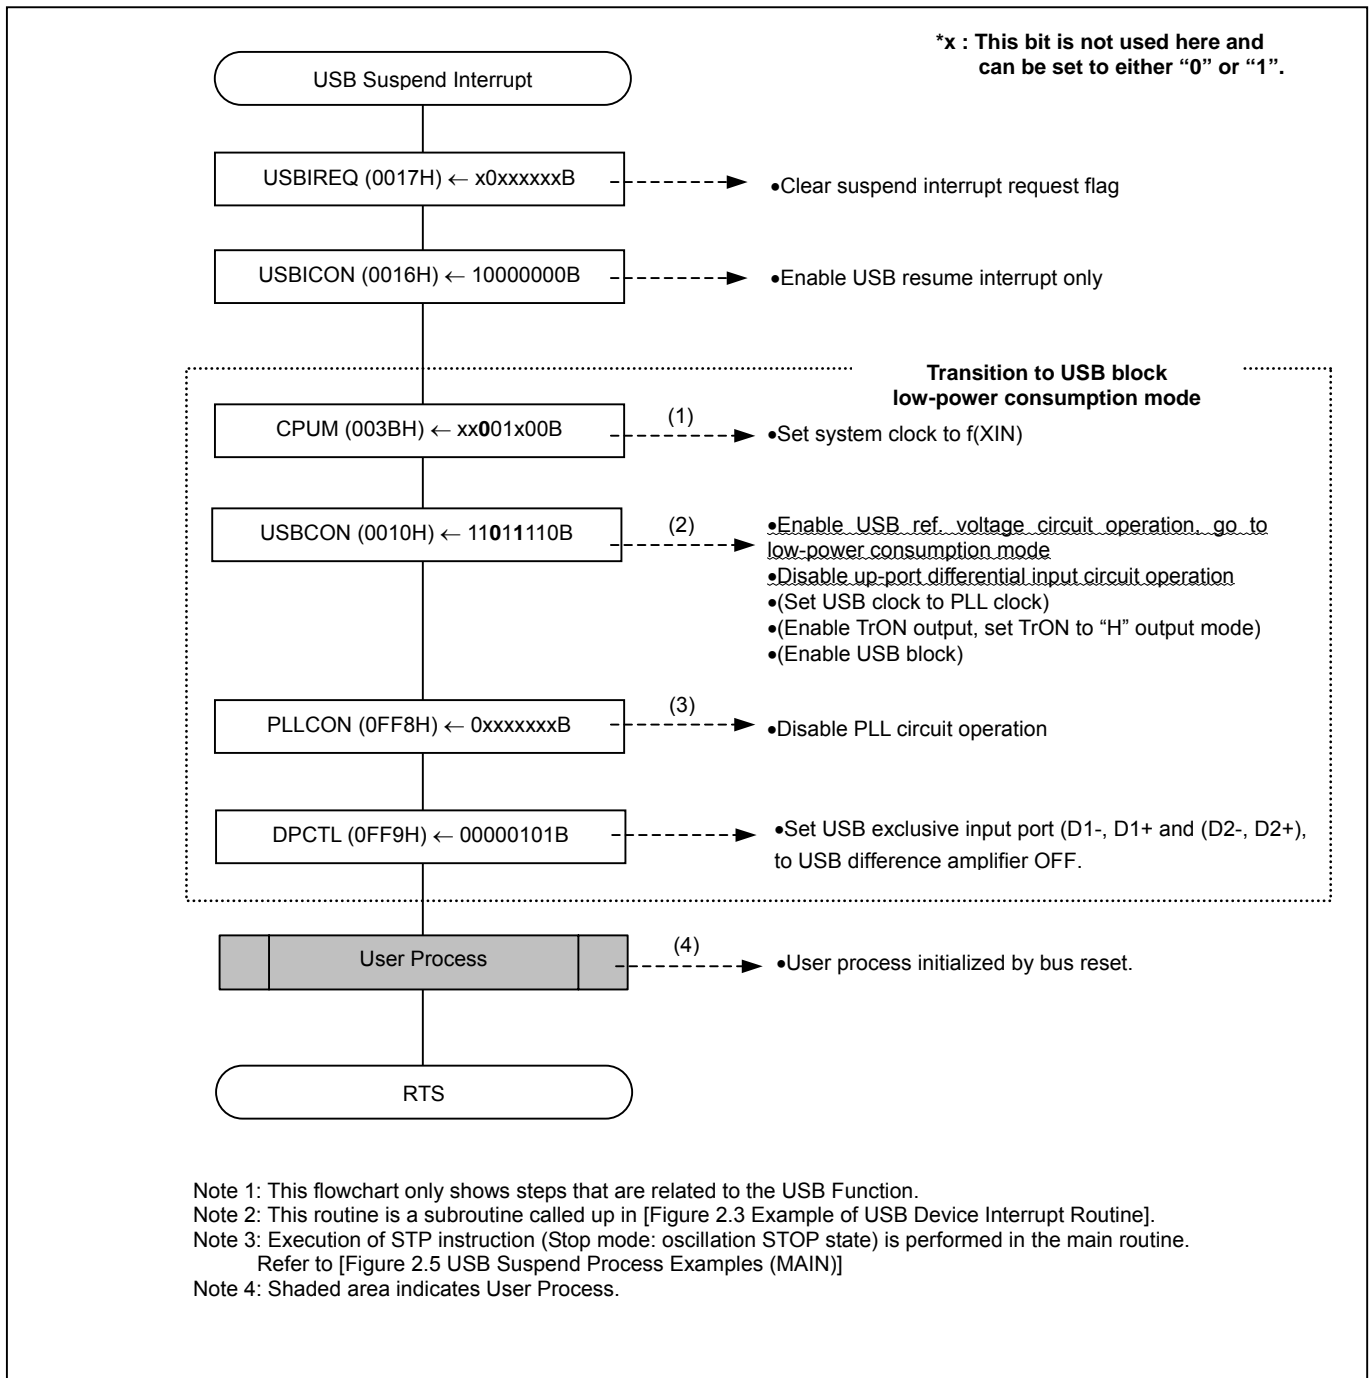

Figure 2.4 Example of USB Suspend Interrupt Routine
(6) USB suspend interrupt processing
• An example of the processing routine executed when a USB suspend interrupt is received is shown in Figure 2.4.
The following are detailed descriptions of the steps shown in [Figure 2.4 Example of USB Suspend Interrupt Routine].
The STP instruction (STOP mode: oscillation STOP state) is executed in the main routine after the USB suspend interrupt processing shown in Figure 2.4.